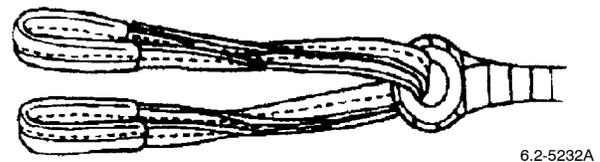

Figure 13. Pass Extender Strap thru Eye
a. Pass extender strap thru eye end of main drogue suspension lines (Figure 13).